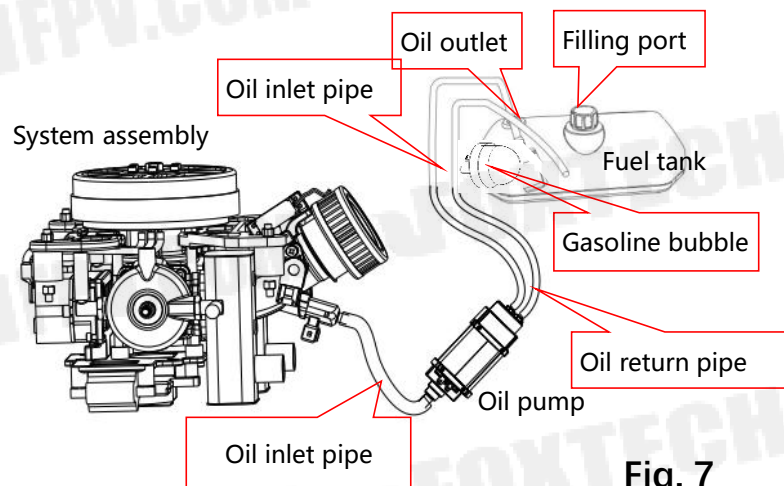

Fig. 7
3.3 The oil pump installation and oil pipe connection are shown in Figure 7 below: